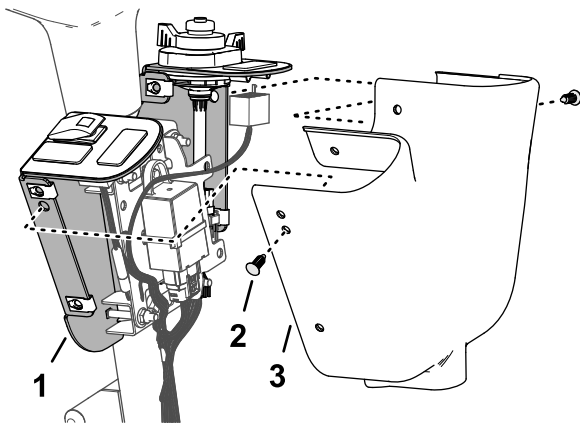

Figure 36
- Align the holes in the control cover to the holes in the switch mount (Figure 36).
2. Using the middle holes, secure the cover to the mount with 2 push-in fasteners as shown in Figure 36.